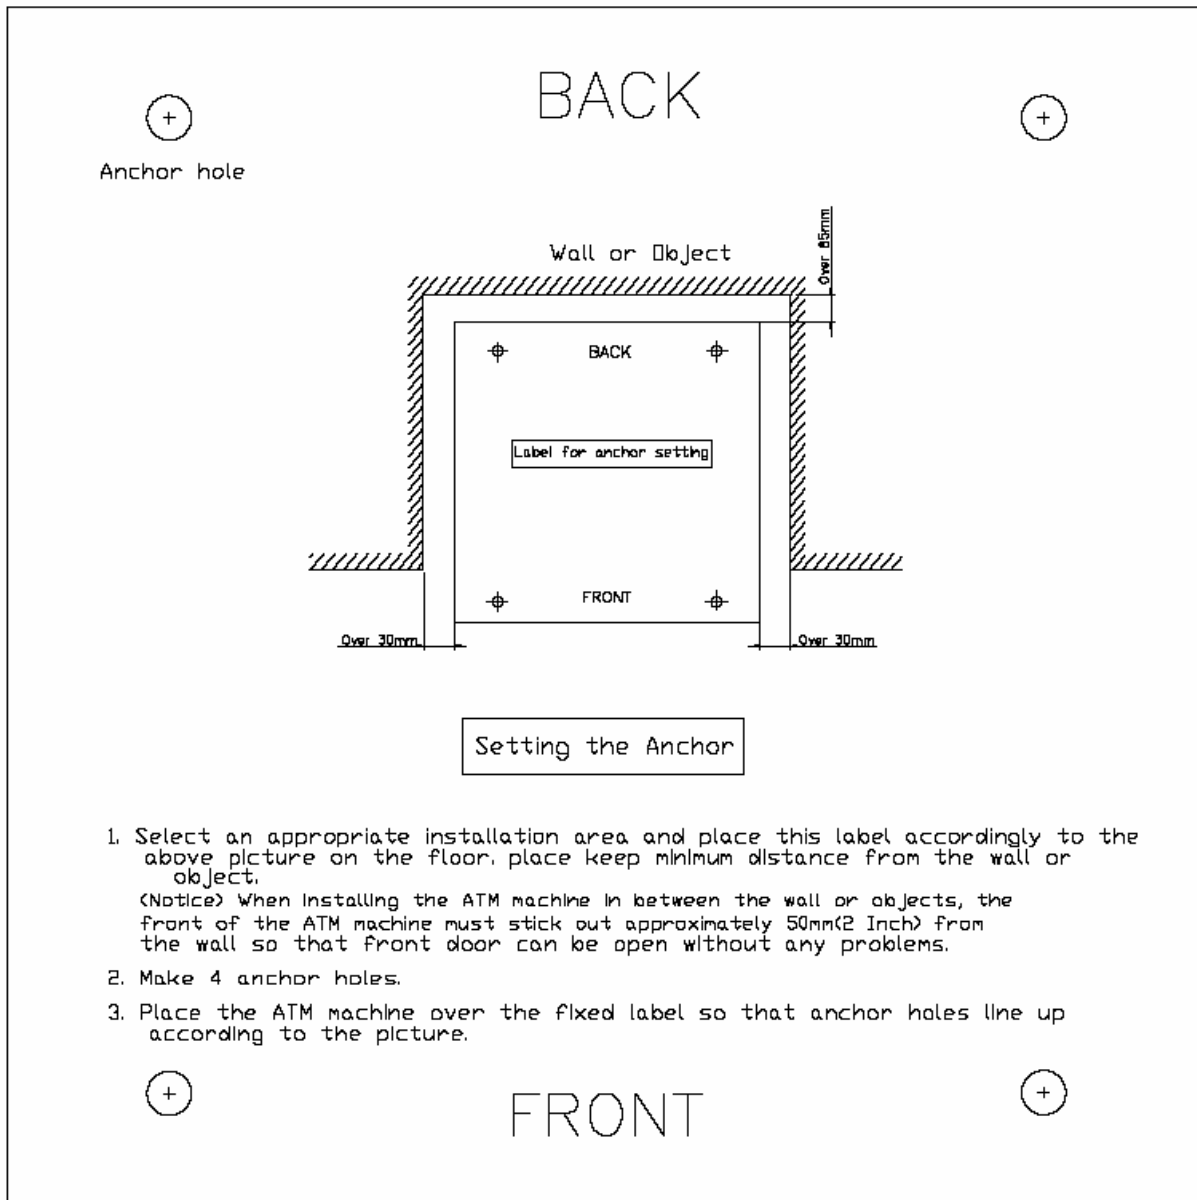

Fig. 4.5
- 1) Place the “Anchor bolts locate sheet” at the place where the machine is to be installed. (refer to Fig. 4.5)